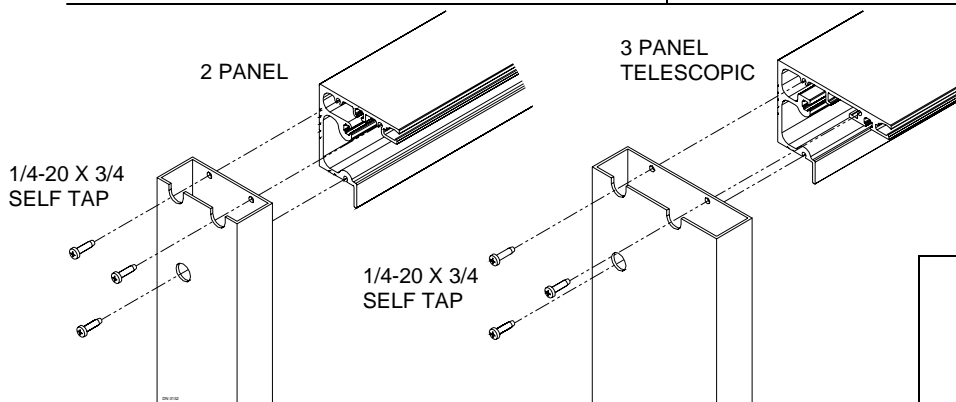

Figure 4
3. Position jamb tubes on each end of header. Fasten with provided 1/4-20 x 3/4-inch self-tapping bolts (see Figure 4 pg. 5).